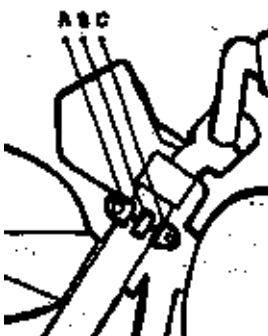

Figure 4.
7. Examine lower bracket area and select the best location for the fork boss. Figure 4.